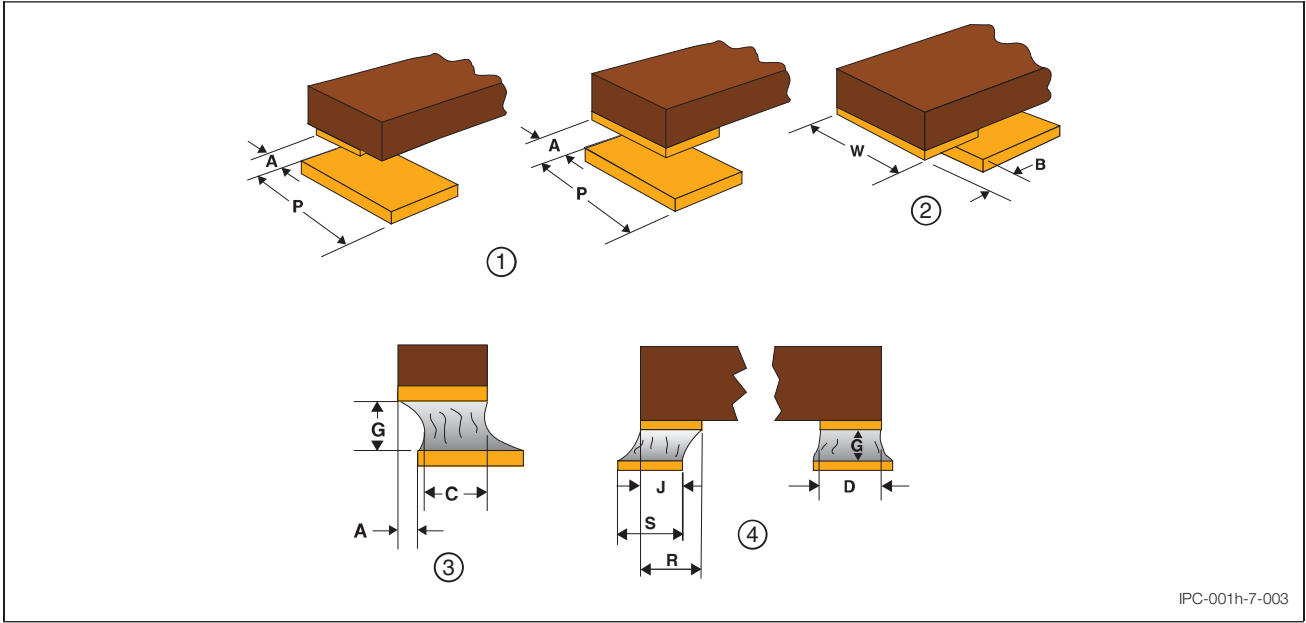

Figure 7-3 Bottom Only Terminations
7.5.3 Bottom Only Chip Component Terminations Discrete chip components with bottom only terminations **shall** [D1D2D3] meet the dimensional and solder fillet requirements of Table 7-3, see Figure 7-3. The widths of the component and land are (W) and (P), respectively, and the termination overhang describes the condition whereby the smaller extends beyond the larger termination, i.e., (W) or (P). The length of the component termination is (R) and the length of the land is (S).